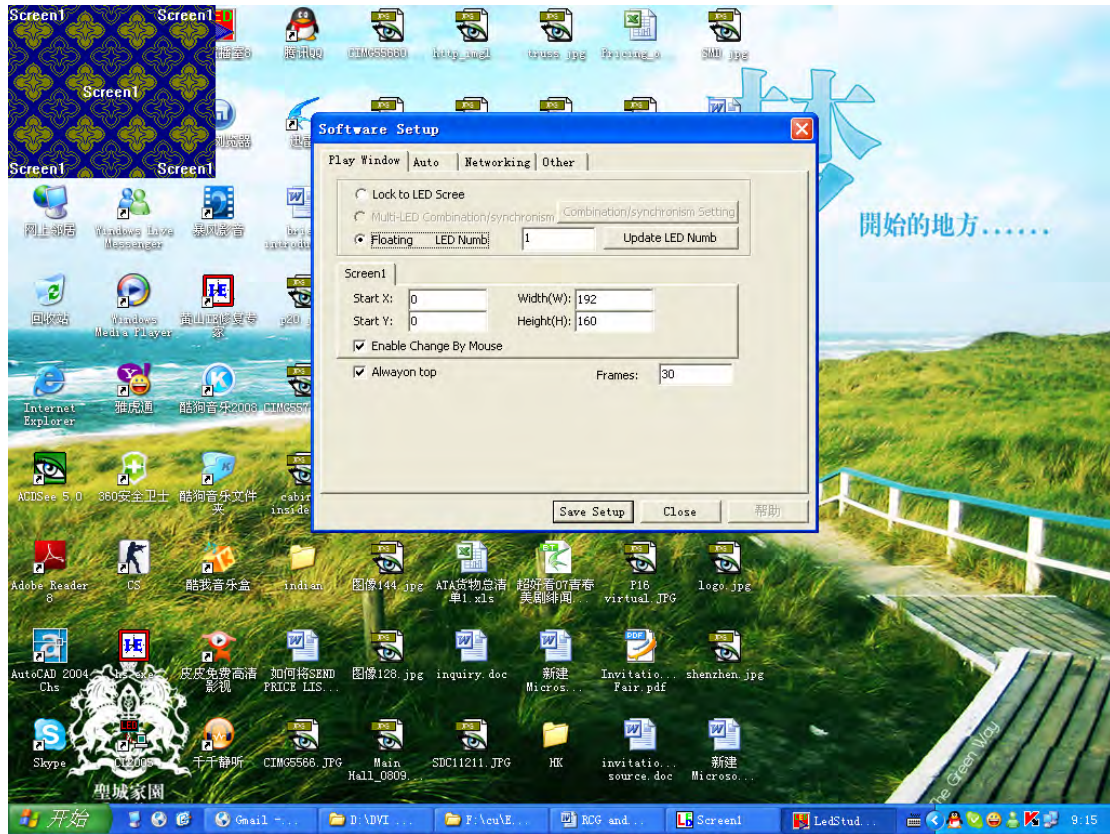

Figure 3
6.click on it, figure 3 will show up